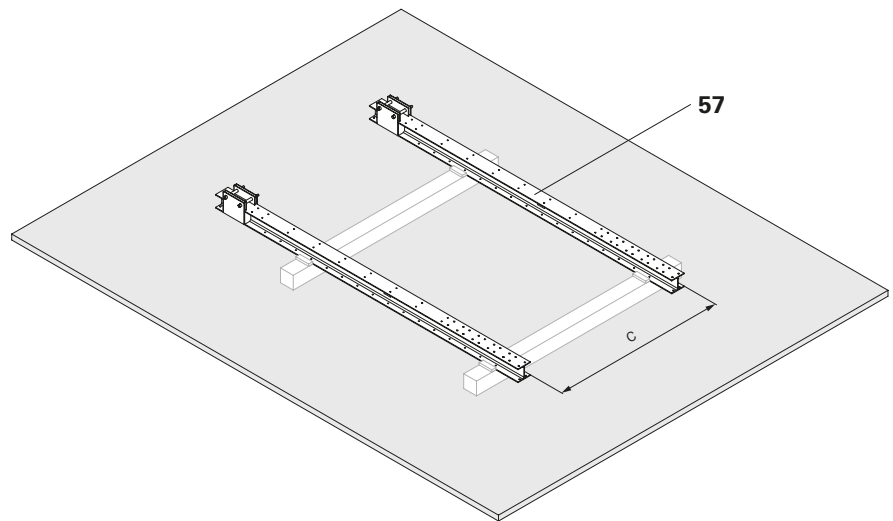

Fig. B9.07
1. Place the Platform Post 5900 IPBL 240 ACS (**57**) on squared timbers while observing the console bracket spacing. (Fig. B9.07)